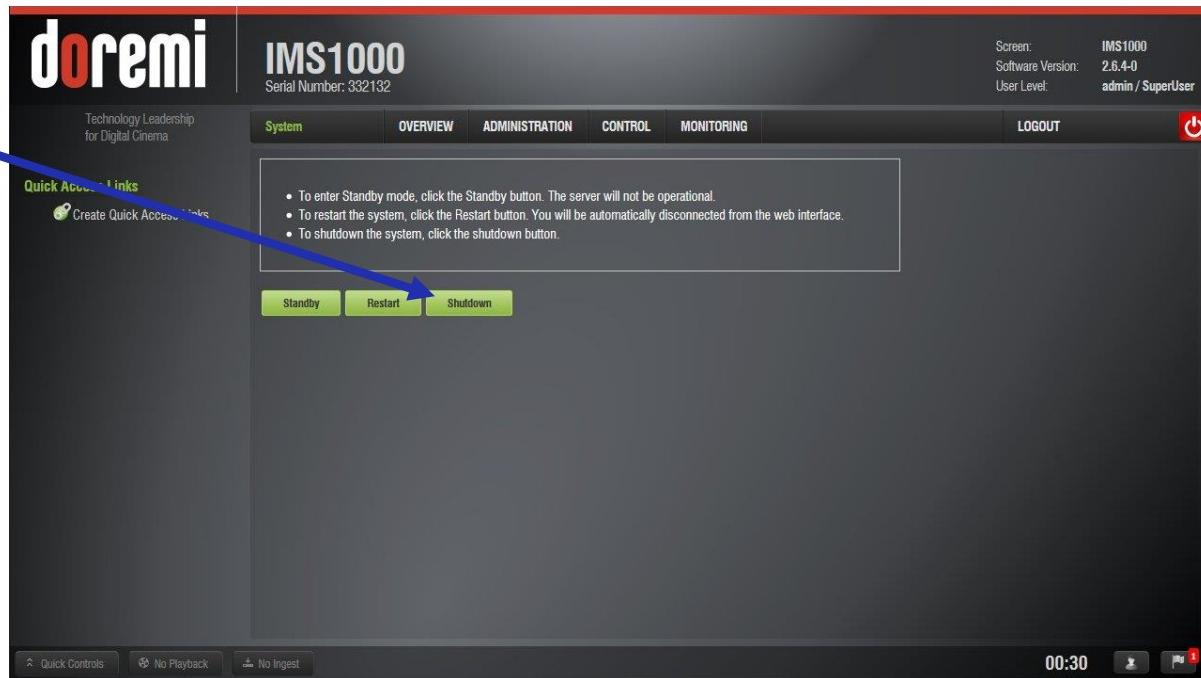

Figure 94: Shut Down
- To shut down the board, go to Administration → System (Figure 94).